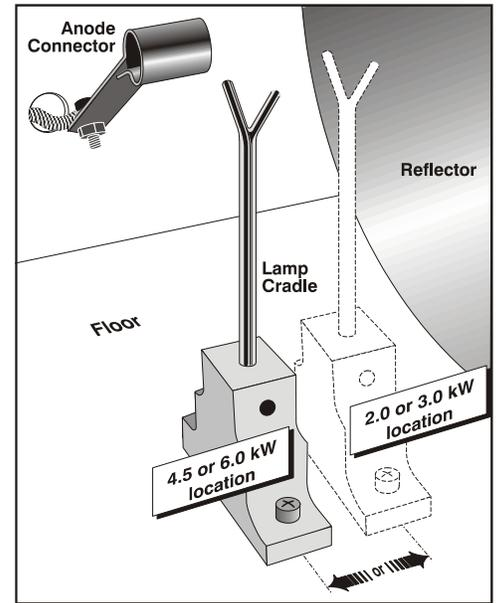

Figure 2.22. Move cradle back for 2.0 or 3.0 kW lamps
- ❑ For 2.0 or 3.0 kW lamps, move the cradle to the rear position, i.e., approximately 1" closer to the reflector. See Figure 2.22.